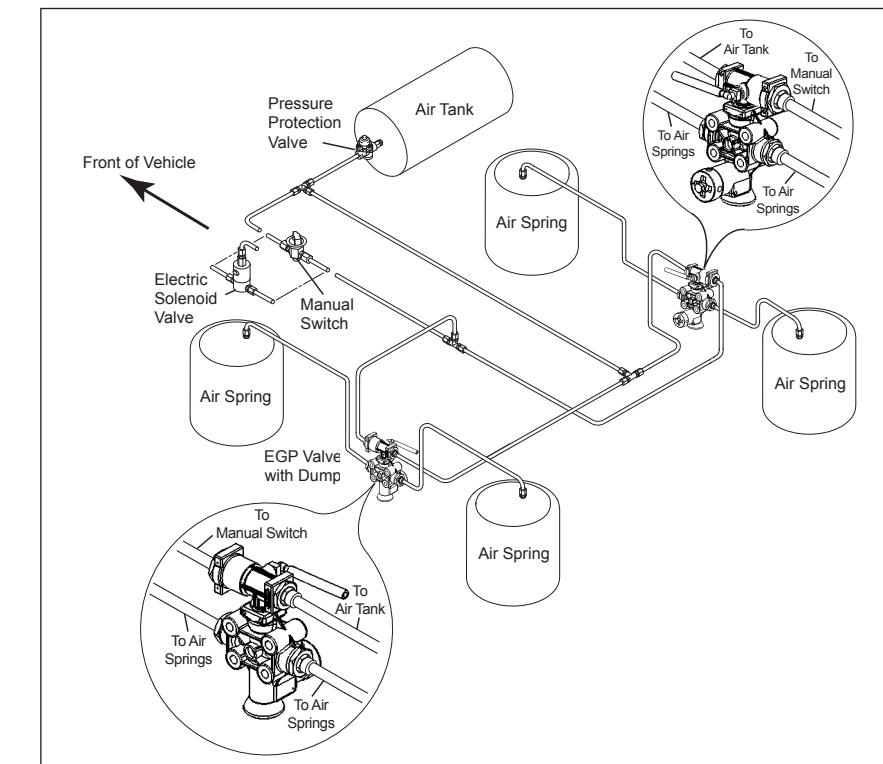

**Figure 1. 90555106 EGP Reference Dimension Details**
2. Install the EGP in the recommended position by bolting it to the specified surface using 5/16" diameter or 8mm mounting bolts. (See Figure 1 for mounting bolt spacing)